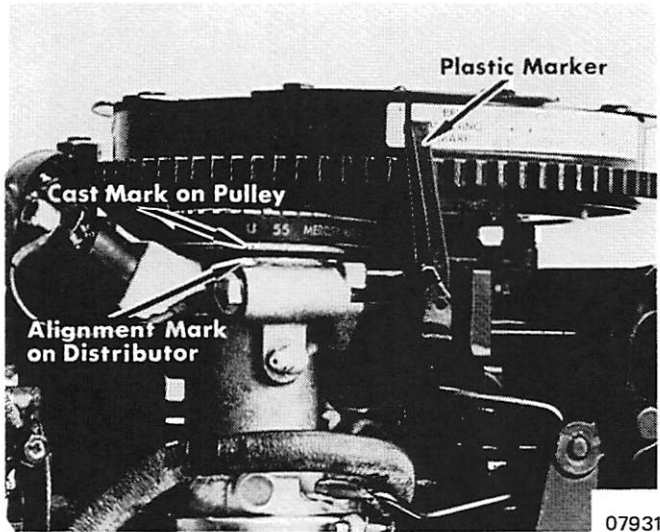

Figure 1. Timing Belt Alignment
- a. Insert plastic timing marker into powerhead, as shown in Figure 1.
- b. Align plastic timing marker with "BELT ALIGNING MARK" on flywheel decal. (Figure 1)
- c. Align cast notch on pulley with alignment mark on distributor. (Figure 1)